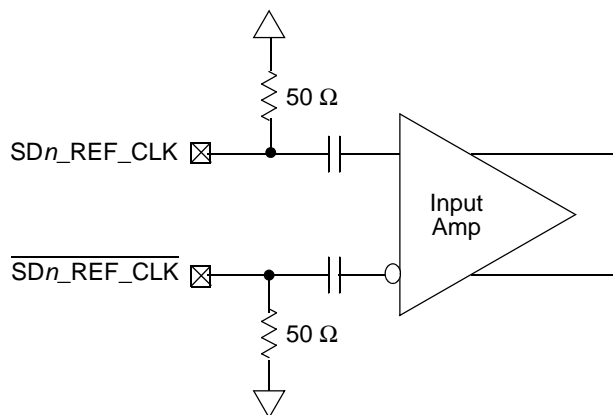

Figure 44. Receiver of SerDes Reference Clocks
Figure 44 shows a receiver reference diagram of the SerDes reference clocks. Characteristics are as follows:
- The SDn_REF_CLK and $\overline{\text{SDn_REF_CLK}}$ are internally AC-coupled differential inputs as shown in Figure 44. Each differential clock input (SDn_REF_CLK or $\overline{\text{SDn_REF_CLK}}$) has on-chip $50\text{-}\Omega$ termination to SGND_SRDSn (xcorevss) followed by on-chip AC-coupling.